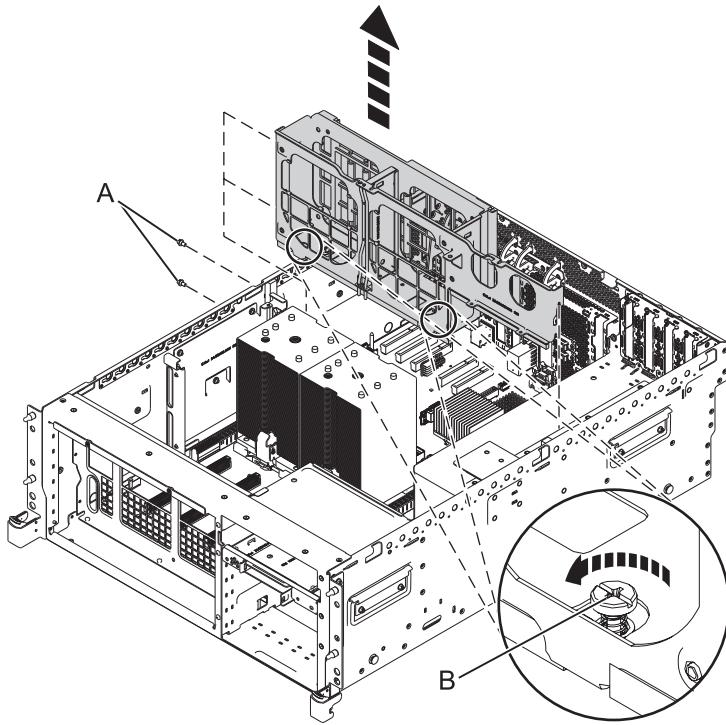

Figure 9. Remove the middle fan cage
- a. Remove the screws **(B)** that secure the fan cage. See Figure 9 on page 14.